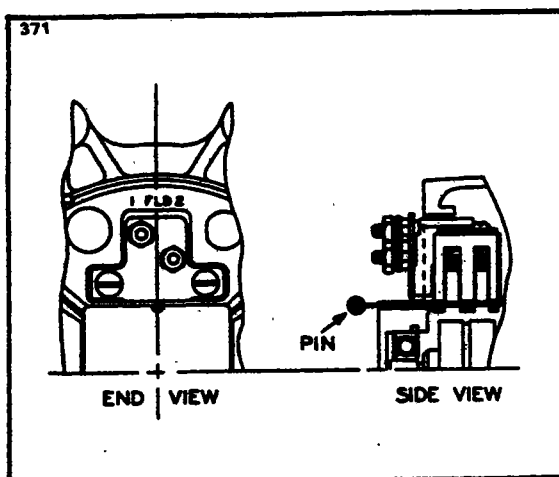

Figure 11-83. Brush Installation
- c. **Brushes:** These units have a separate brush holder assembly that is installed after the alternator has been assembled. The brush holder has a small hole that intersects the brush cavities. Use a pin or a piece of wire, as shown in Figure 11-83 to hold the brushes in the holder during assembly. Remove the pin after the brush holder retaining screws have been tightened. Make a continuity check to be sure the brushes are seated against the slip rings.